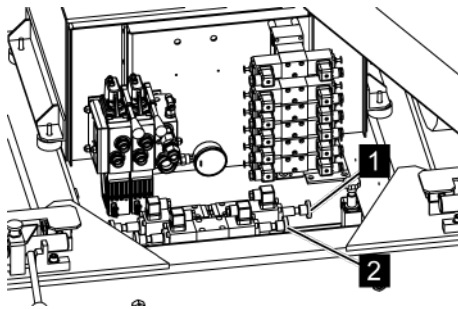

Fig. 127: Valves
8. ➔ For emergency operation, unlock the shuttle valve (Fig. 127/2).
- Make sure that the shuttle valve (Fig. 127/2) is completely unlocked for normal operation.